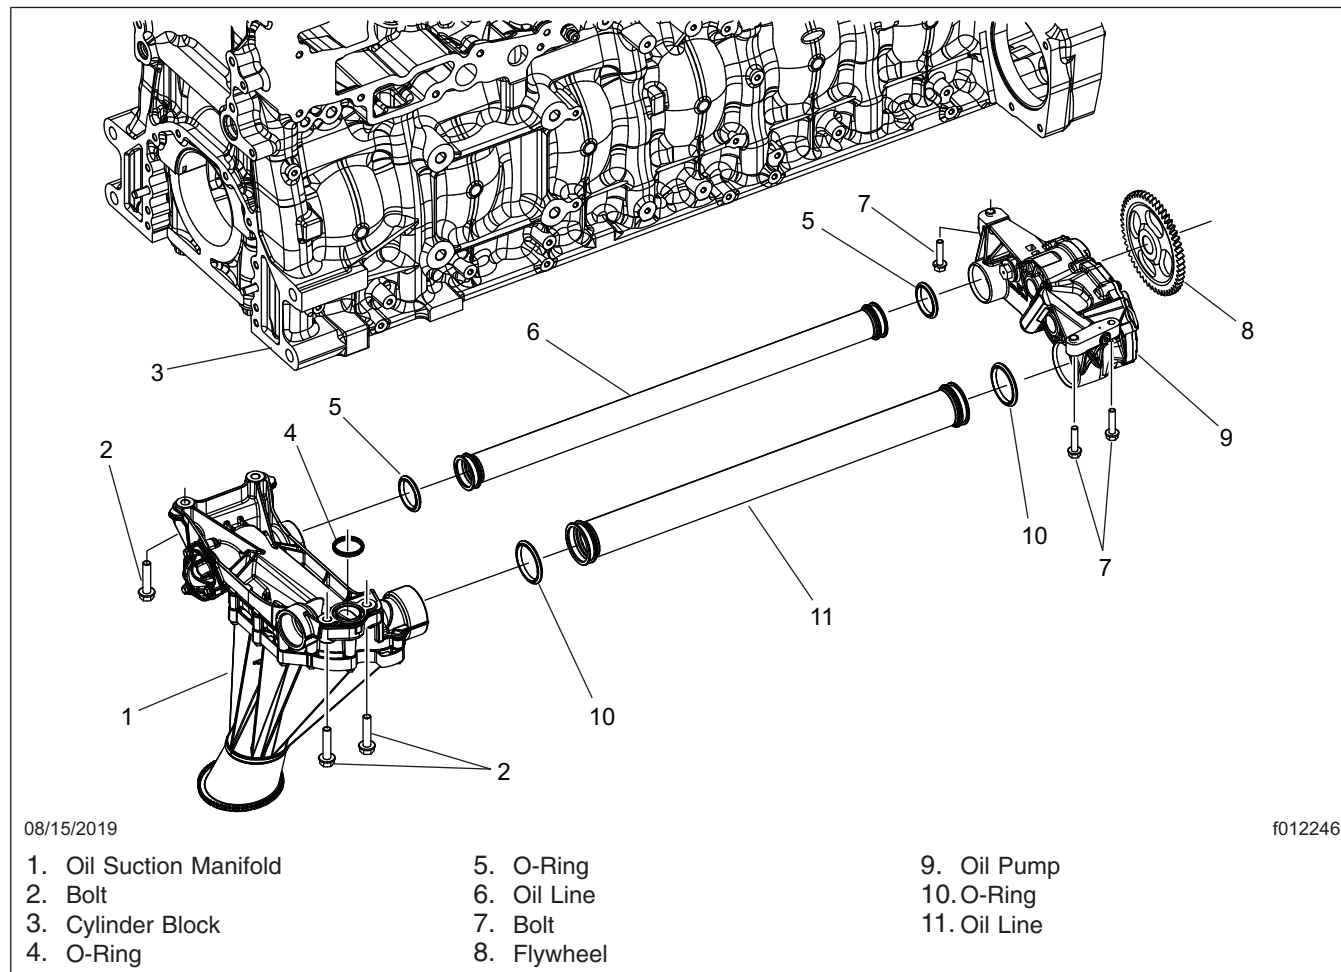

Fig. 1, Oil Pump Assembly
6. Remove the four bolts (ref. 2) securing the oil suction manifold to the cylinder block. See Fig. 1.